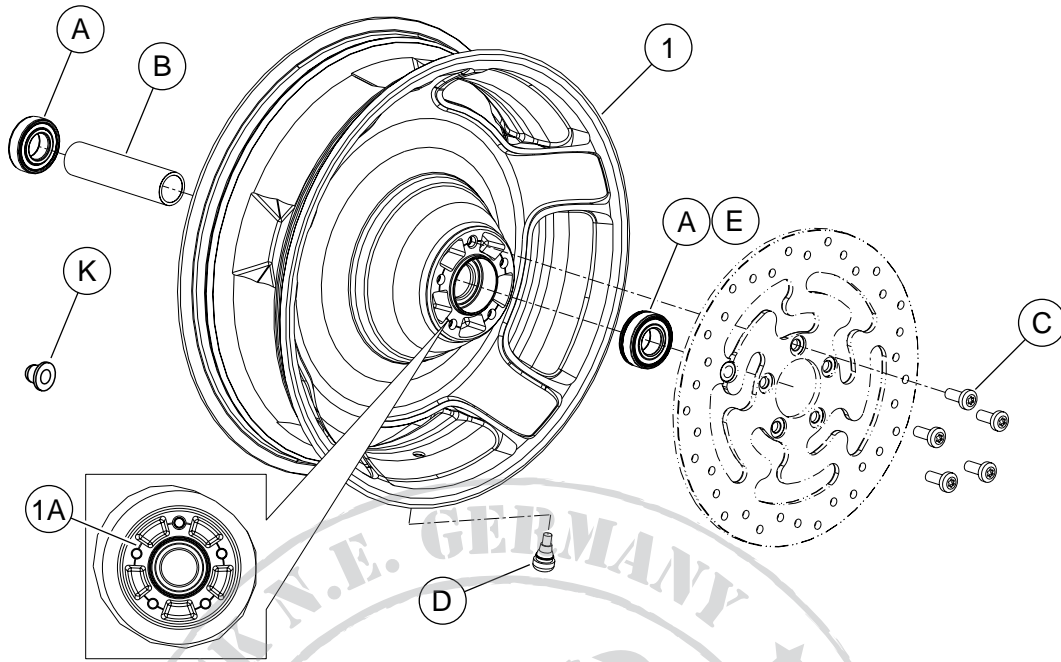

Figure 1. Service Parts: Rear Airstrike Wheel
See Figure 1 and Service Parts Tables.
2. See Figure 1. Install valve stem assembly (D) on wheel. Refer to TIRES in service manual.